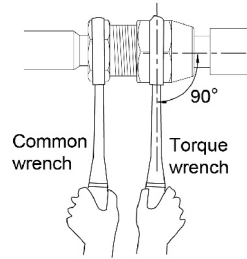

Fig. 23
- (3) Use torque wrench to twist on the flared nut tightly until the wrench gives out a click sound (Hold the handle of wrench and make it at right angle to the pipe, as in Fig.23).
- (4) Use sponge to wrap the un-insulated connection pipe and joint. Then tie the sponge tightly with plastic tape.
- (5) Connection pipe should be supported by a bearer rather than the unit.
- (6) The bending angle of piping should not be too small; otherwise the piping might have cracks. Please use a pipe bender to bend the pipe.
- (7) When connecting IDU with connection pipe, do not pull the big and small joints of IDU with force in case the capillary tube or other tubes have cracks and cause leakage.
- (8) When connecting IDU with connection pipe, do not pull the big and small joints of IDU with force in case the capillary tube or other tubes have cracks and cause leakage.